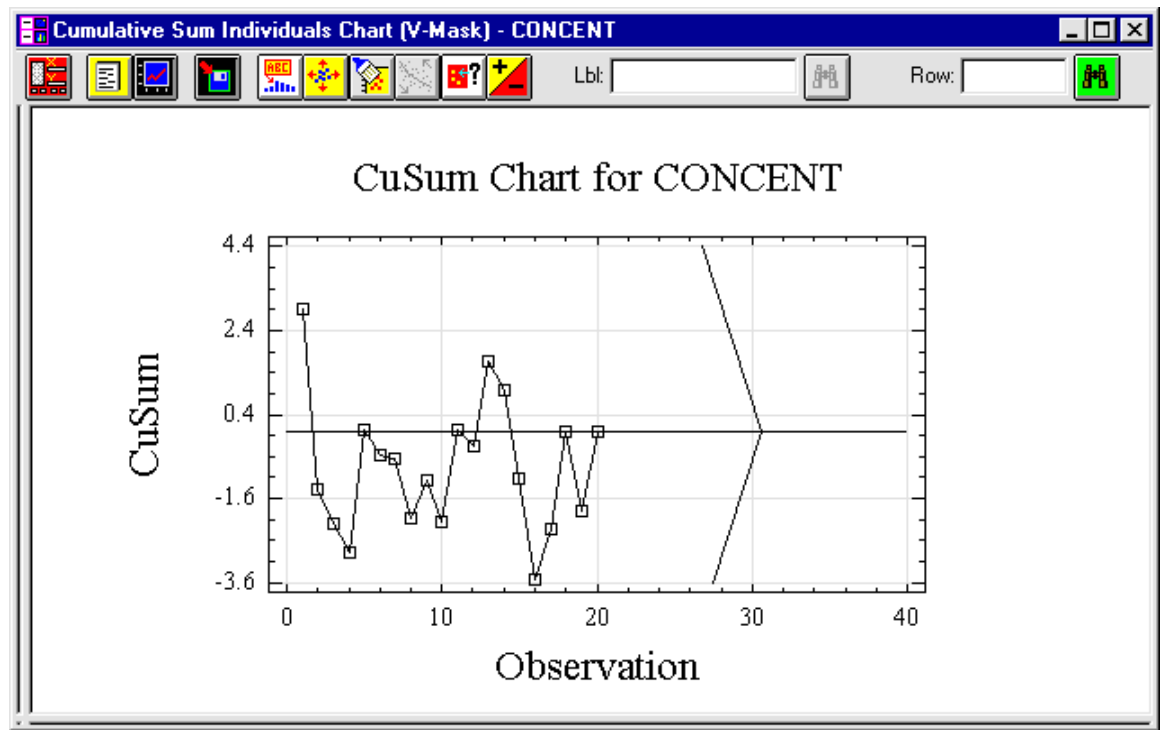

Figure 2-4. Cumulative Sum Chart
4. Minimize the CuSum Individuals Chart and maximize the Cumulative Sum Chart (see Figure 2-4).